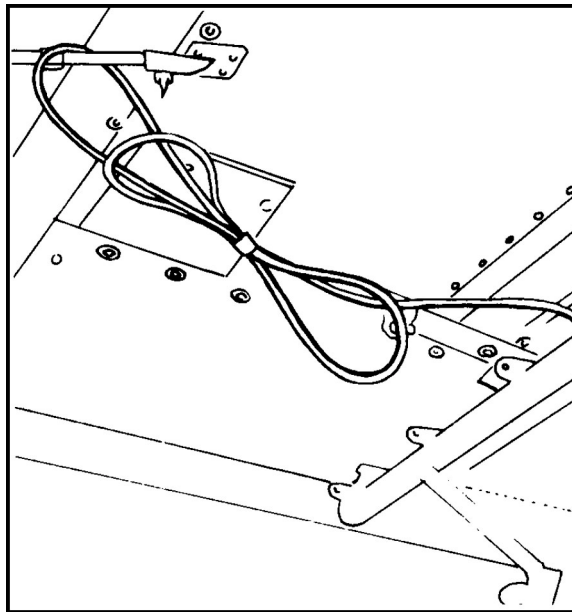

Figure 17-11. UH-60A JM's intercomm stowed overhead.
(3) Cargo doors are locked in the open position and cleared for closing, depending on mission requirements.
(4) The anchor line system is complete, serviceable, and properly installed.
(5) Three serviceable safety belts (modified) are installed on the cargo floor.
(6) A headset/helmet and intercomm jack for the JM are available and operational, and the intercomm extension cord is secured overhead (Figure 17-11).
(7) Safety harnesses and backpack-type emergency parachutes are available for the JM and the crew chief, as required.